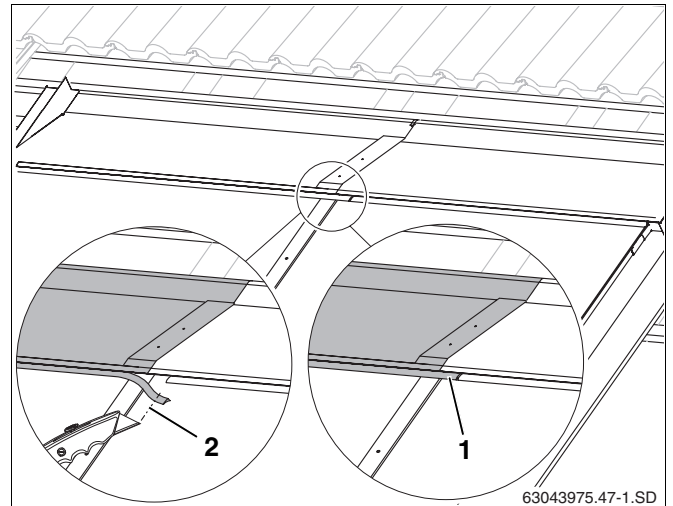

Fig. 56 Upper left facing panel
- ▶ Shorten the rubber lip (Fig. 56, **Item 2**), so that it touches the rubber lip on the right-hand facing panel.
- ▶ Place rubber lip on the left-hand facing panel onto the fold on the right-hand facing panel (Fig. 56, **Item 1**).